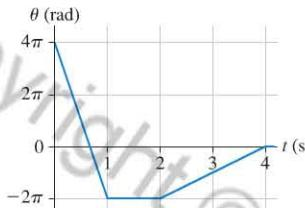

FIGURE P7.44
44. | Figure P7.44 shows the angular position-versus-time graph for a particle moving in a circle.